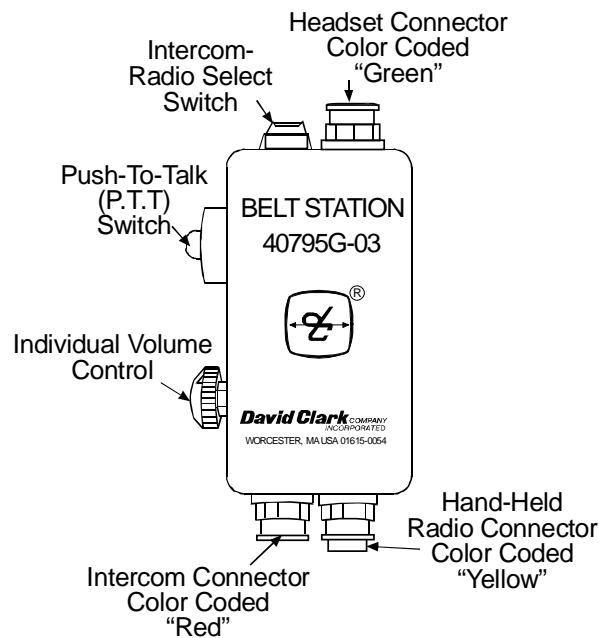

Figure 10: Belt Station Connections
- q Examine **Figure 10** which shows the interconnections on the Belt Station.